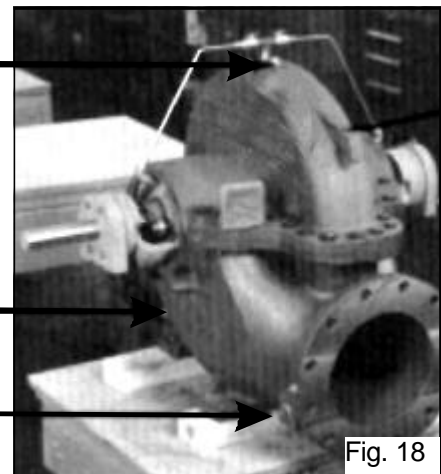

Fig. 18
1. Drain the pump by opening vent plug (A, Fig. 18) and remove drain plugs (B and C) on the suction and discharge nozzles.